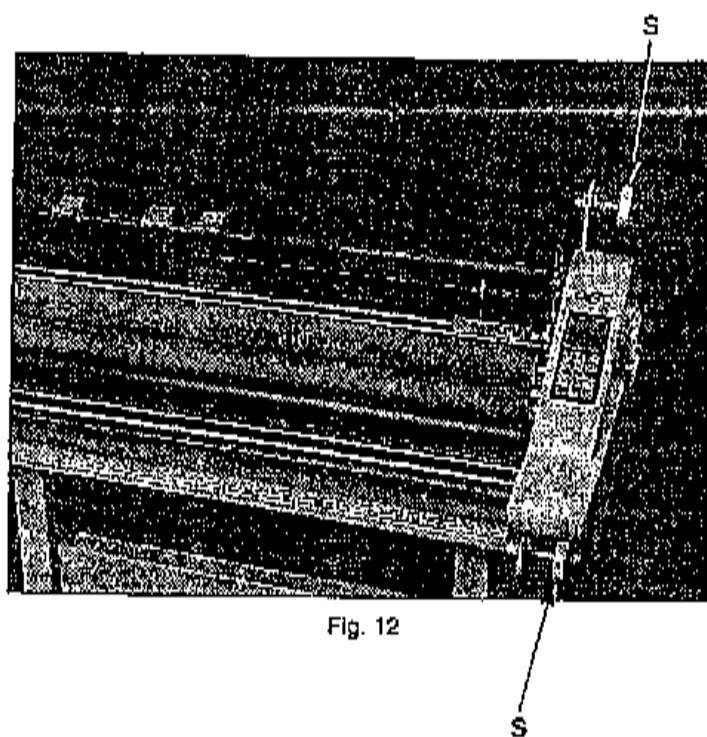

Fig. 12
1. The machine is equipped with external tension knobs (S) located on the right side of the film supply shafts, (Figure 12). Turning the knobs clockwise increases the tension while counterclockwise decreases the tension.